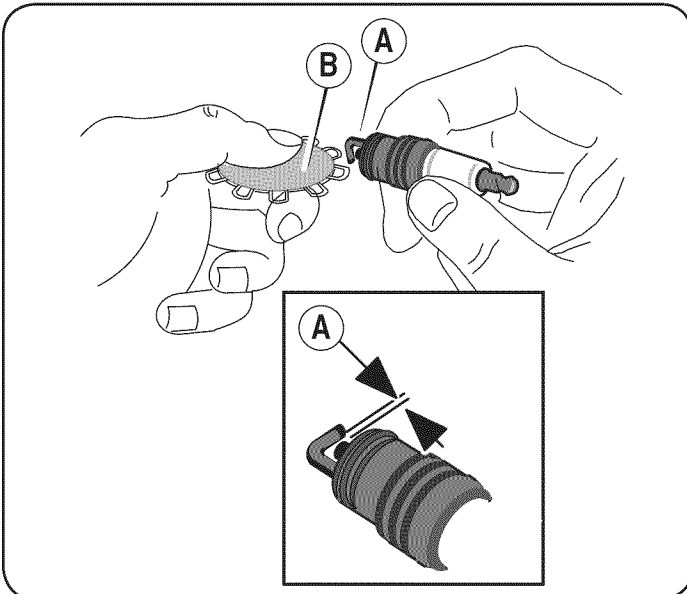

Figure 16
2. Check the gap (A, Figure 16) with a wire gauge (B). Spark plug gap should be 0.030 in (0.76 mm). If necessary, reset the gap. Install and tighten the spark plug to the recommended torque (180 lb-in [20 Nm]).